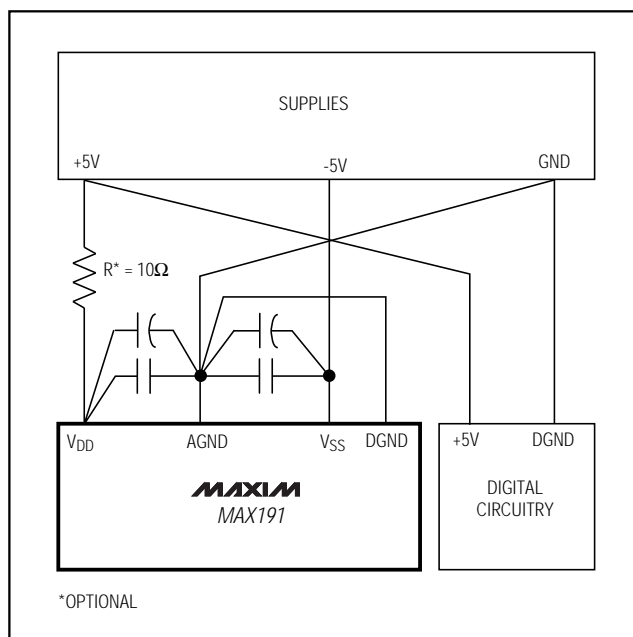

Figure 23. Power-Supply Grounding Connection
Figure 23 shows the recommended system ground connections. Establish a single-point ground ("star" ground point) at AGND, separate from the logic ground. Connect all other analog grounds and DGND to it. No other digital-system ground should be connected to this single-point analog ground. The ground return to the power supply for this star ground should be low impedance and as short as possible for noise-free operation.
0.01 $\mu$ F and 10 $\mu$ F bypass capacitors. Minimize capacitor lead lengths for best supply-noise rejection. If the +5V power supply is very noisy, a 10 $\Omega$  resistor can be connected as a lowpass filter to filter out supply noise (Figure 23).